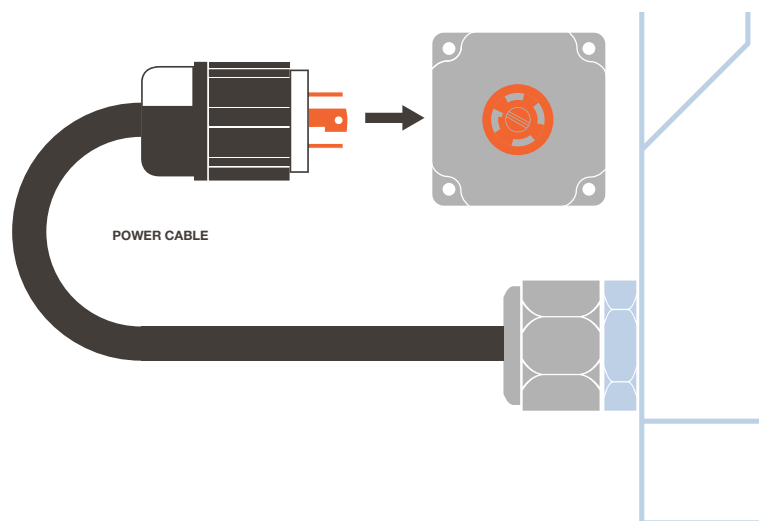

Figure 4-4: Power Cord Assembly
**Step 2.** Verify operating voltage match (**Figure 4-4**)